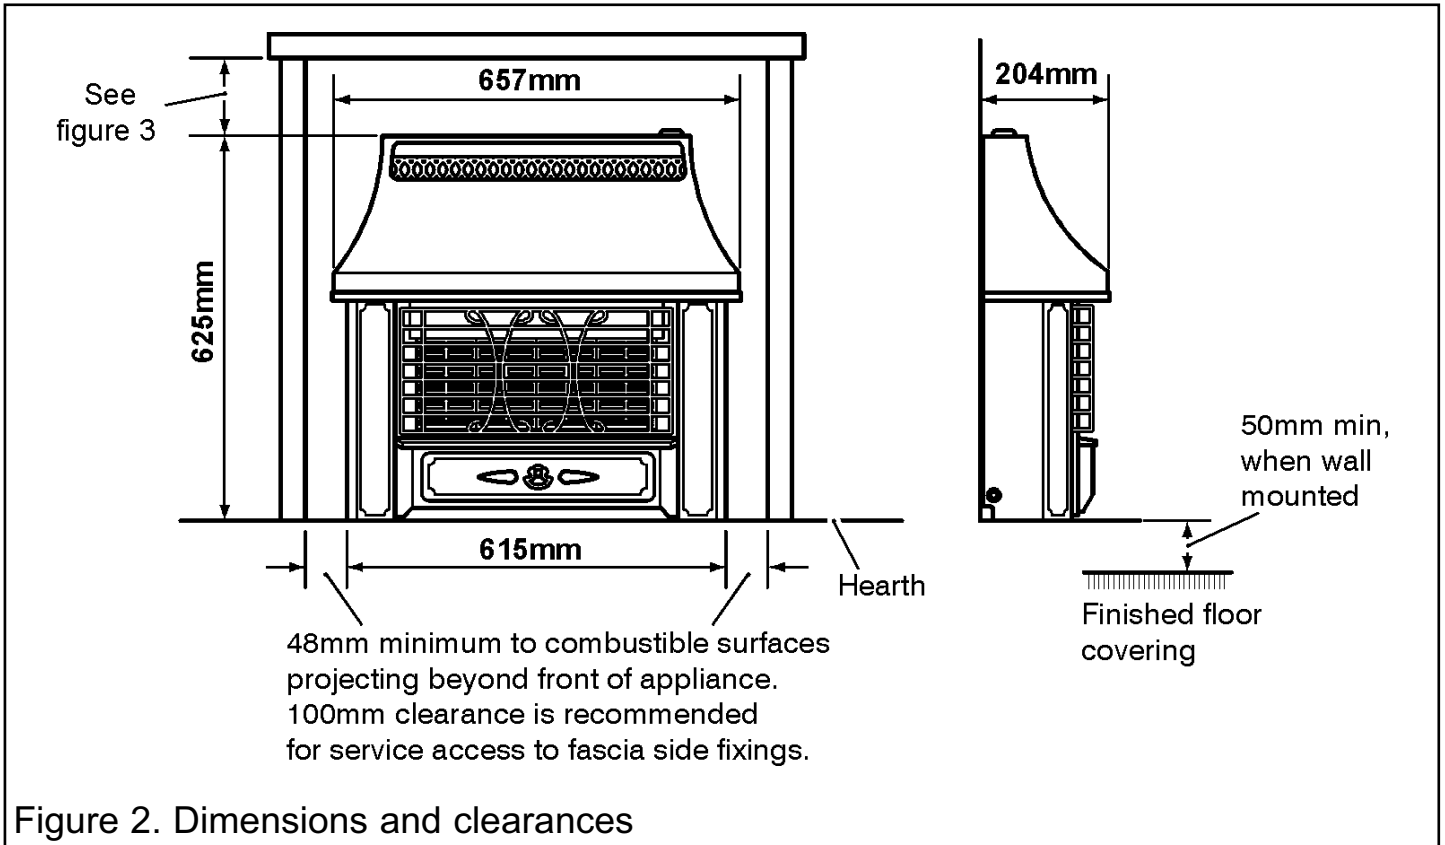

Figure 2. Dimensions and clearances
4.7.1 The minimum allowable distance from the outside of the appliance fascia to a corner wall having combustible material or any other combustible surface which projects beyond the front of the appliance is 48mm at either side (See figure 2). Although no side clearance is necessary to non-combustible surfaces we recommend a 100mm clearance for service access to the fascia side fixings.
The wall opening must be within the following dimensions: The minimum height figures shown reflect that an extra 50mm is required above the **finished floor level** when wall mounting (See figure 2).